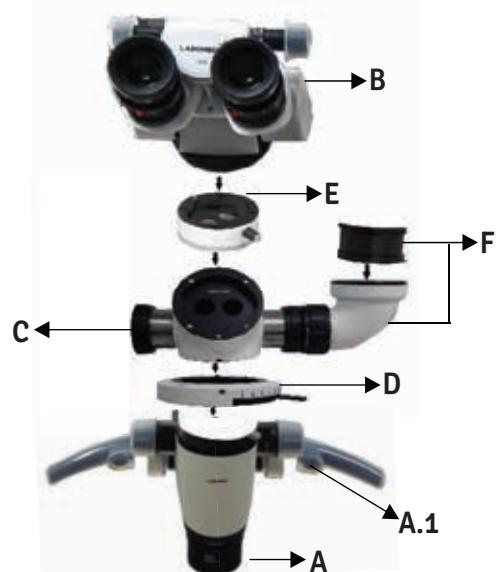

Fig. 21
- b. Rotate the fine focusing ring shown as (A) Fig 21 to achieve fine focus.